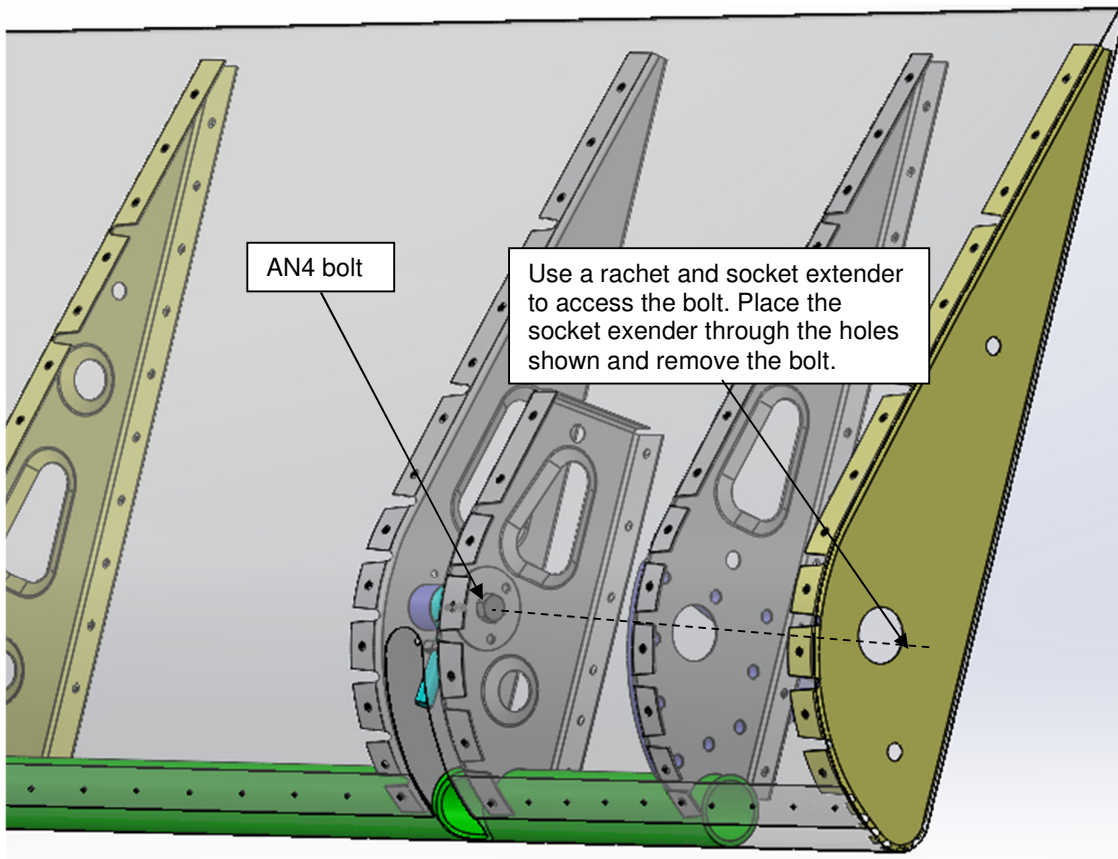

Figure 14: Aileron leading edge eyebolt assembly
Step 11. For the eyebolts located at the ailerons leading edge, remove the AN4 bolt (9) shown in Figure 14. To access this bolt, you will need to drop the flap. To do this follow steps 1 and 2 *only*, of the Flap removal procedure (Option1). This procedure can be found in Section 4.1.3.2 of manual DC-MAM-001-X-F. Remember to support the aileron and flap during this step as they may drop.